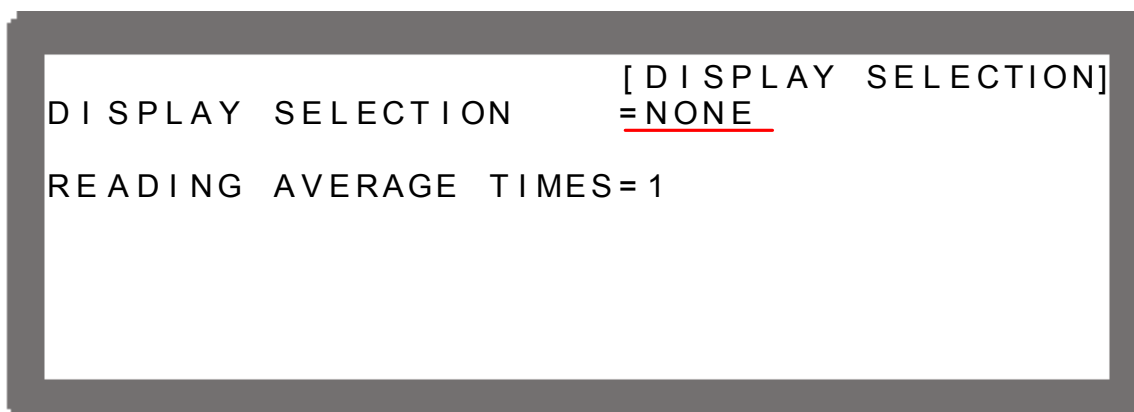

Figure 3-66
2. Press "ENTER" to enter into DISPLAY SELECTION as Figure 3-66 shows.
1. Use "←↑", "→↓" keys to move the cursor to the column to be set as Figure 3-66 shows.